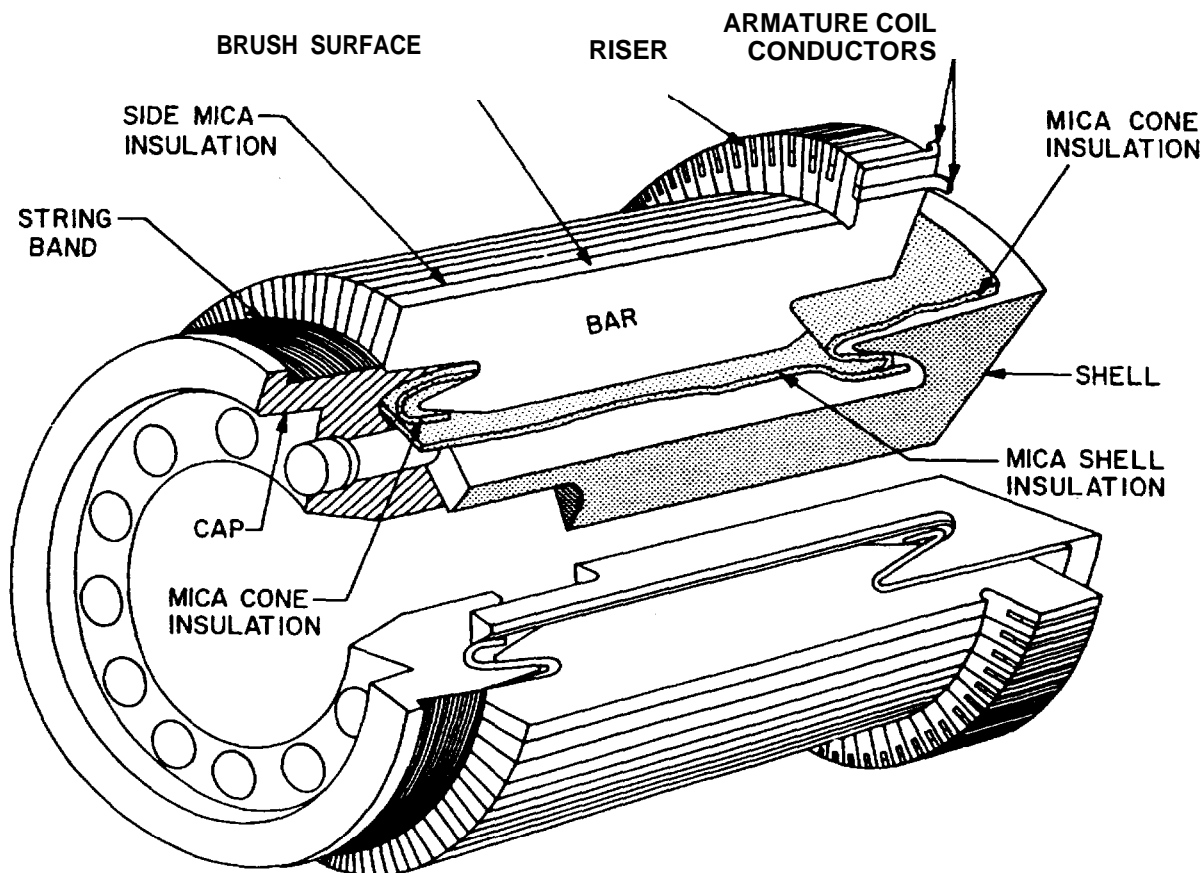

Figure 4-14. Cutaway section of a commutator.
(3) *Commutators.* A cutaway section of a commutator is shown in figure 4-14. The primary source of unsatisfactory commutation is due to faulty operating conditions. Therefore, the principal maintenance function is that of keeping the commutator surface clean, concentric, smooth, and properly undercut. Surfaces of the commutator bars must be even and free of ridges so that the commutation is concentric, thus allowing any object held against it to react as though it were held against a smooth surface cylinder. Inspection and maintenance methods are as follows: